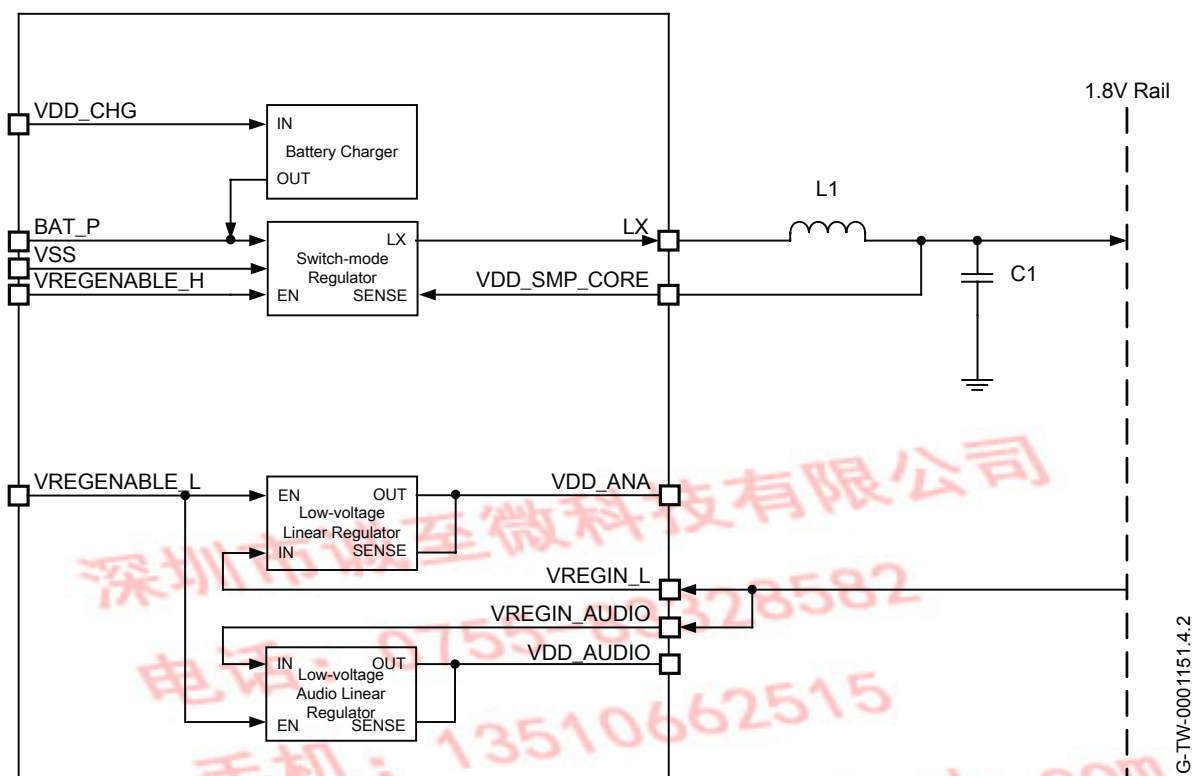

Figure 11.1: Voltage Regulator Configuration
- Powered from the switch-mode regulator and the low-voltage regulators in series, as Figure 11.1 shows.